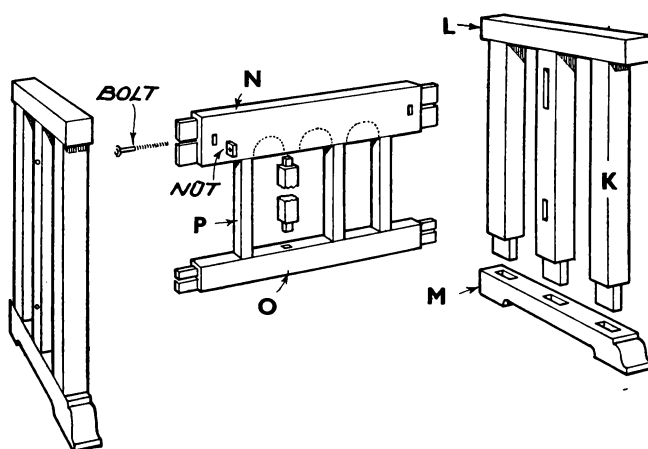

FIG. 6. HOW THE STAND IS PUT TOGETHER.
The cross-framework, consisting of the top rail (N), bottom rail (O), and uprights (P), is put together with mortise and tenon joints, as in Fig. 6. Work the hollow shapes after cutting the joints. The carving in the top rail can be omitted if preferred, though it adds to the effect. In this case work a simple channeling similar to that of the bottom rail.
The ends of both rails are tenoned to fit into mortises in the centre legs, and they are held there by means of bolts and nuts as in Fig. 6. Note how recesses
Now, using a quick gouge, remove the inner part of the rebate as in Fig. 6. If you make a preliminary shallow cut short of the gauge line, follow with the chisel, and then, repeat the process, you can gradually make the rebate deeper and deeper. When nearly down to the finished depth take a flat gouge and cut in horizontally along the gauge line (see Fig. 7). If you use a wide chisel vertically along the edge gauge line the remaining waste in the corner will come away. Test to see that the rebate is square and trim where necessary with the gouge and chisel. Finish off by making a glasspaper rubber to fit the curve, and rub down any inequalities with this. (356)
- Fig. 6. Cuts made with gouge and chisel.